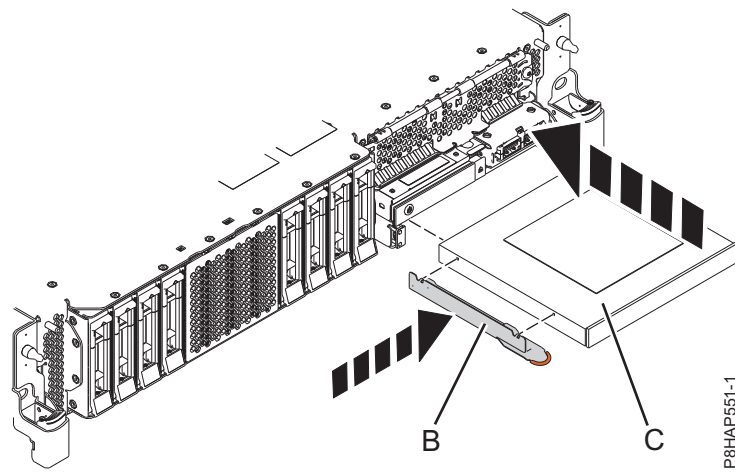
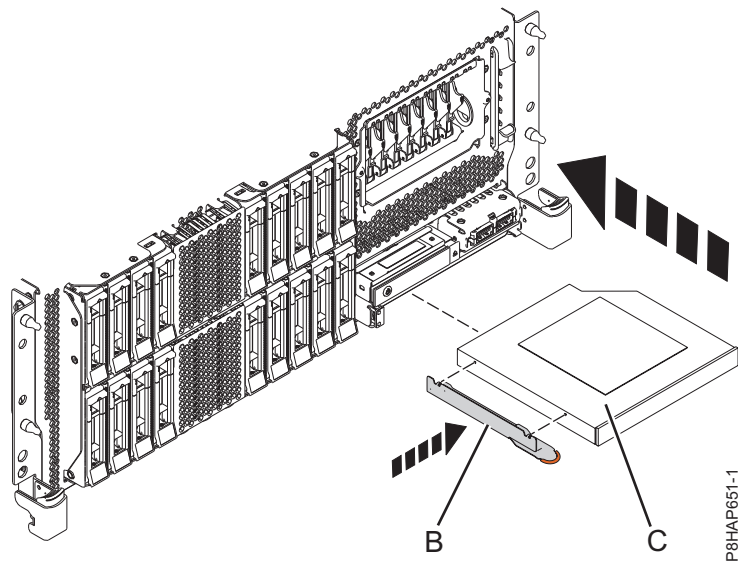
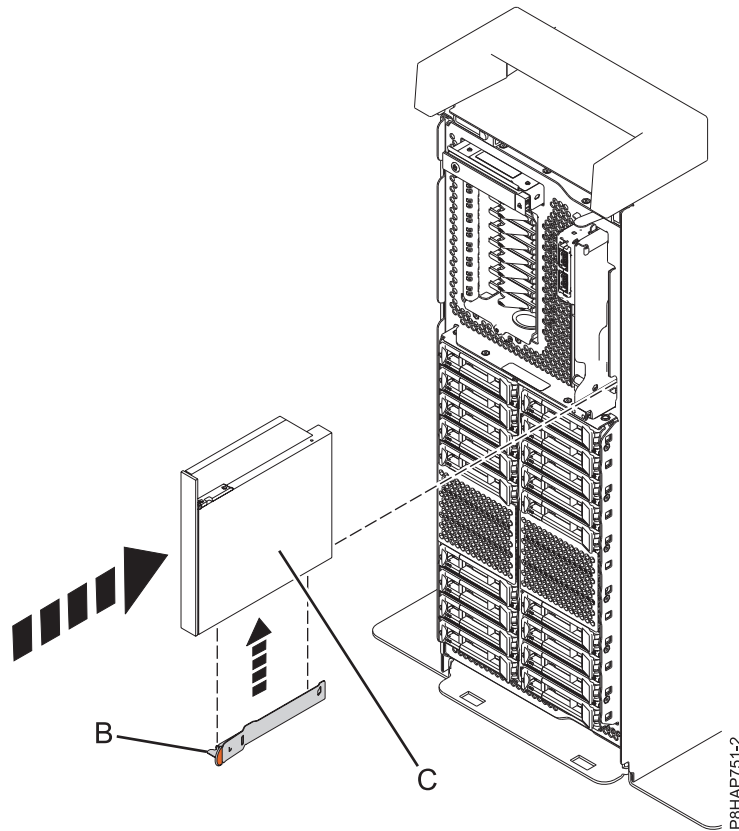

Figure 2. Installing a Slimline media device in an 5148-21L, 5148-22L, 8247-21L, 8247-22L, 8284-21A, or 8284-22A system
Figure 3. Installing a Slimline media device in a rack-mounted 8247-42L, 8286-41A, or 8286-42A system
Figure 4. Installing a Slimline media device in a stand-alone system
4. Attach the retaining-bracket **(B)** to the new Slimline media device, as shown in Figure 2 on page 5 for an 5148-21L, 5148-22L, 8247-21L, 8247-22L, 8284-21A, or 8284-22A system, Figure 3 on page 5 for an 8247-42L, 8286-41A, or 8286-42A system, or Figure 4 on page 6 for a stand-alone 8286-41A system.
For an 5148-21L, 5148-22L, 8247-21L, 8247-22L, 8284-21A, or 8284-22A system, see Figure 2 on page 5, for an 8247-42L, 8286-41A, or 8286-42A system, see Figure 3 on page 5, or for a stand-alone 8286-41A system, see Figure 4 on page 6.